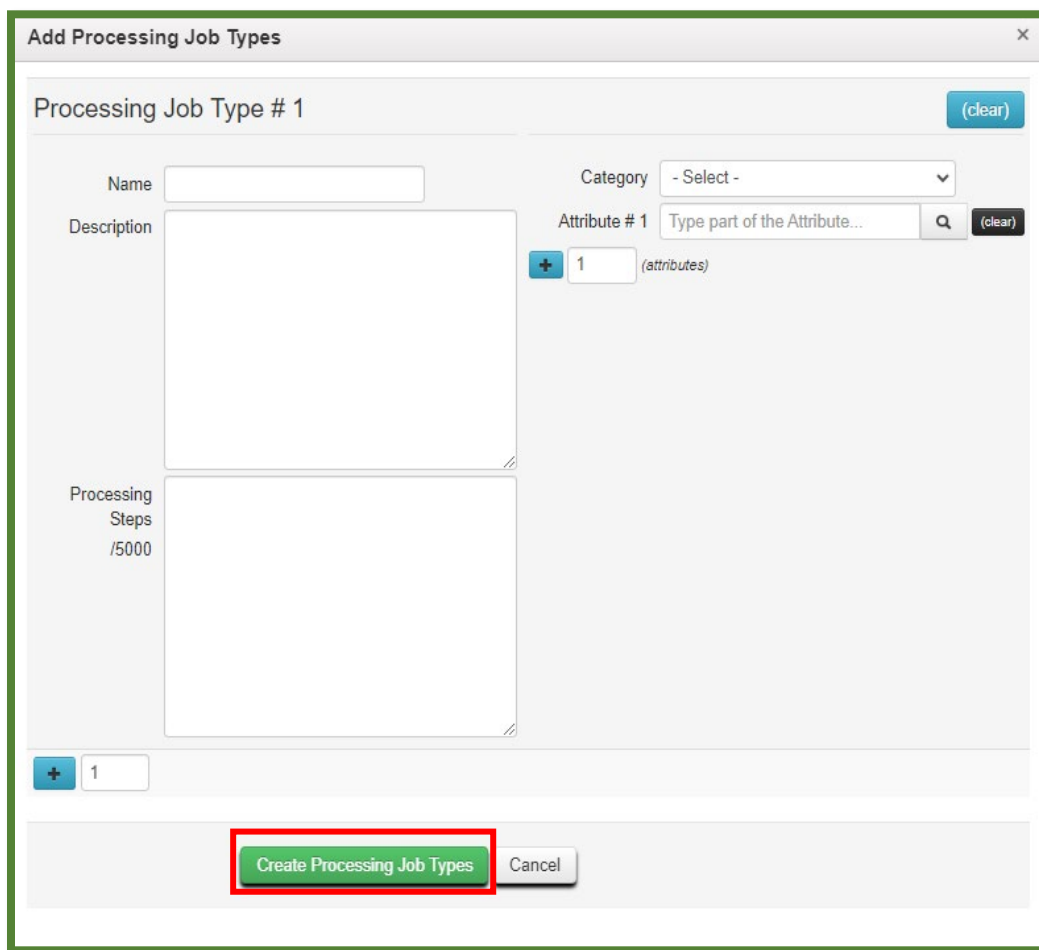

Figure 3: Add Processing Job Types action window
- e. Attribute #1 is used to add one or more Attributes that pertain to the Processing Job Type from the DOH-created options. Attributes can be added by typing in the attributes needed into the attribute field or by selecting the magnifying glass icon and choosing the appropriate option from the group of attributes. To add additional attributes, select the blue plus icon button – **see Figure 3.**